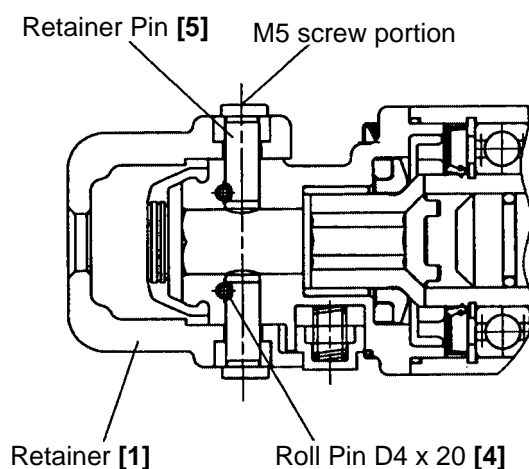

Fig. 9
(1) Disassembly of the retainer
Remove Front Cover (A) **[9]** from the Cylinder Crank Case **[56]** and pull out the Roll Pin D4 x 20 **[4]**. Turning the holder (J212 No. 970992) so that the special bolt M5 (J213 No. 970993) can be vertically inserted into the screw hole of the Retainer Pin **[5]**, make the bottom of the holder contact with the flat portion of the Retainer **[1]**. Holding the special bolt M5 with a wrench to prevent turning, turn the special nut M5 (J211 No. 970991) with a wrench and pull out the Retainer Pin **[5]**. Pull out the other Retainer Pin **[5]** by pushing an 8 mm-dia. steel bar into the hole of Front Cover (A) **[9]** (Figs. 9 and 10).